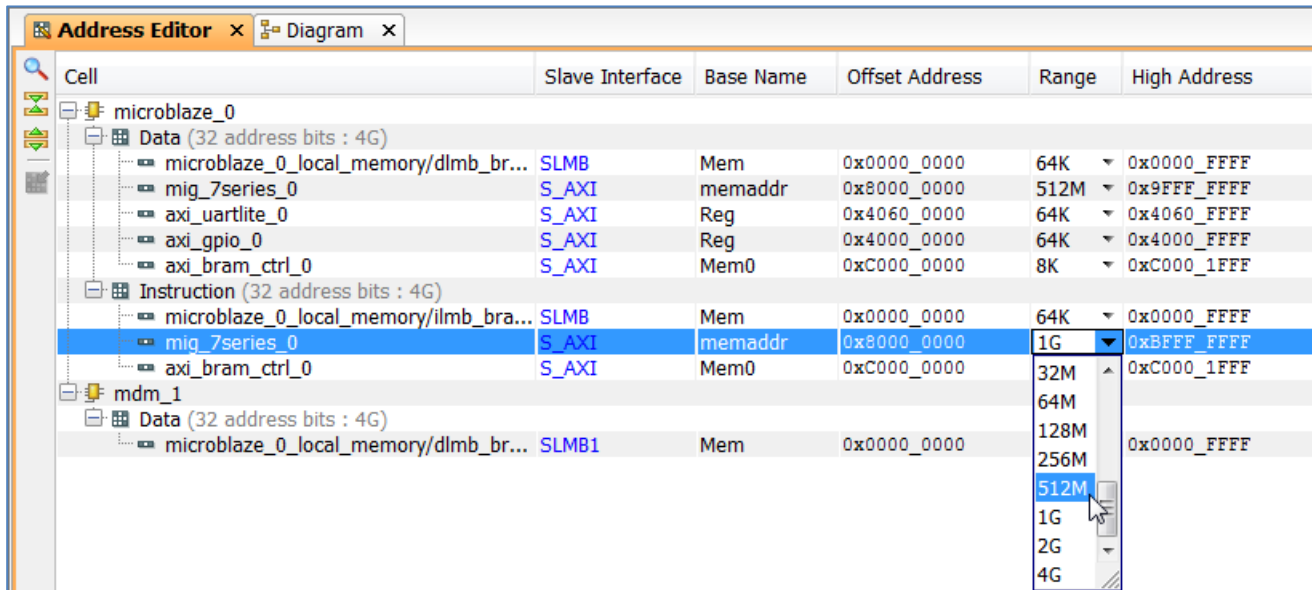

Figure 119: Data and Instruction Set to 512 MB
- b. Change the range of **mig\_7\_series\_0** IP in both the Data and the Instruction section to **512 MB**, as shown in Figure 119.